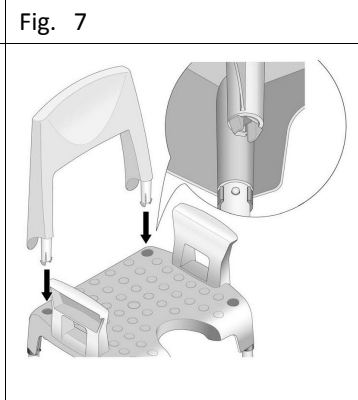

Fig. 9
2. Insert the backrest from above into the seat plate until it engages with an audible click (Fig. 9, 10).